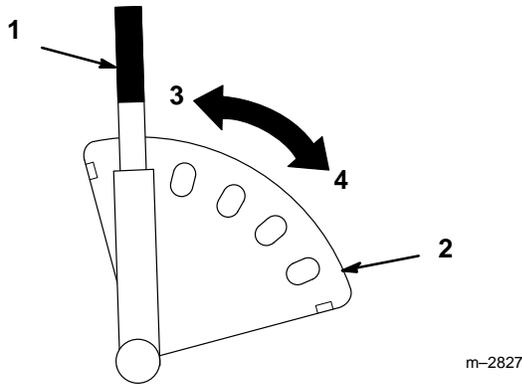

Figure 33
1. Pull height-of-cut lever out to disengage from quadrant. Adjust height-of-cut to the desired level. Release lever inward to lock into quadrant (Fig. 33).